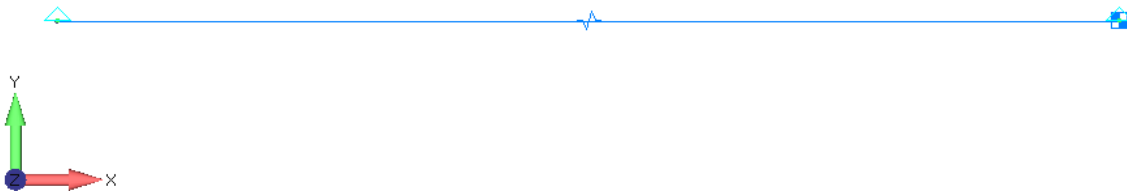

Figure 4-1. Single DOF spring-mass model.
The single DOF spring-mass model (Figure 4-1) consists of a spring grounded at one end with a lumped mass attached to the other. SPCs allow the mass to move only in X-direction translation.
1. Import the 1DOF model “1dof\_modes\_base.dat” (Figure 4-1). Save the file as “1dof.modfem.”